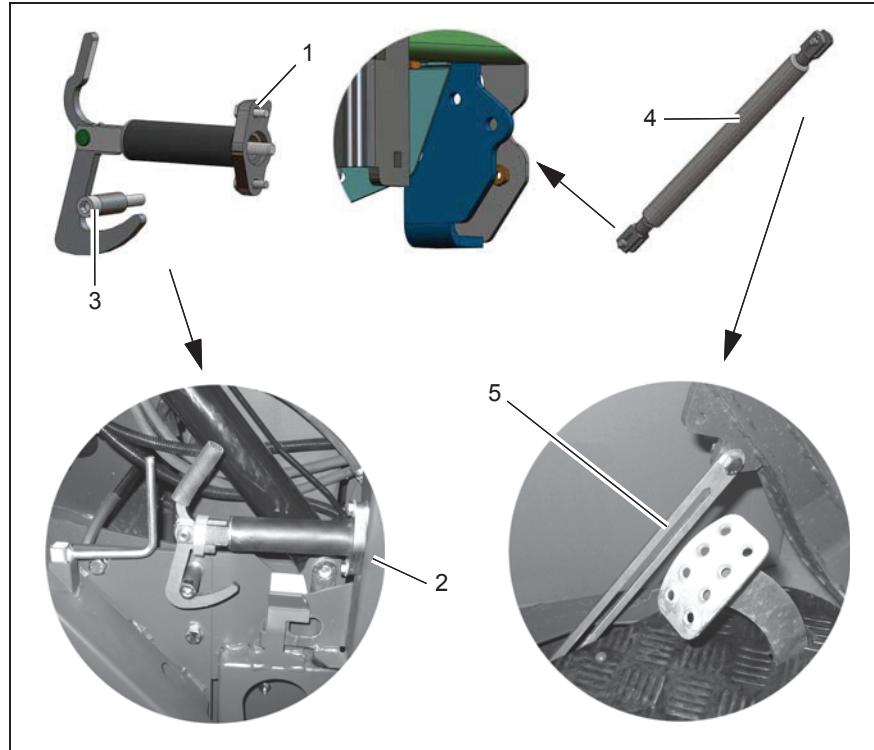

Fig.4
2. Assemble the locking hook (Fig. 4/1) to the seat console (Fig. 4/2) using two M8x25 screws, M10 threaded rod and serrated lock washers.
3. Install the M12x65 bolt (Fig. 4/3) with jack on the vehicle frame.
4. Disassemble the bracket (Fig. 4/5) and install the larger gas buffer (Fig. 4/4) at the same location.